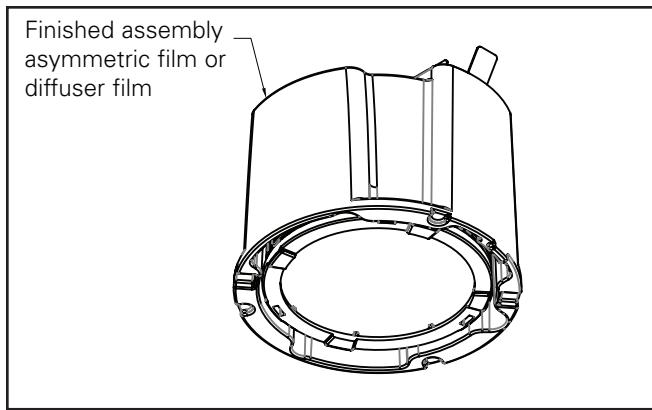

Figure 24
9. When the direction of the distribution is correct remove the label. (Figure 24)